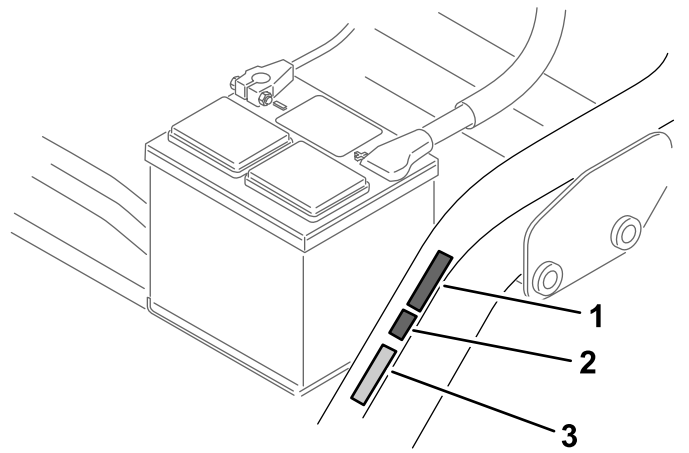

Figure 14
- Apply the CE mark decal next to the serial plate (Figure 14).
- Apply the CE production year decal next to the CE mark decal (Figure 14).